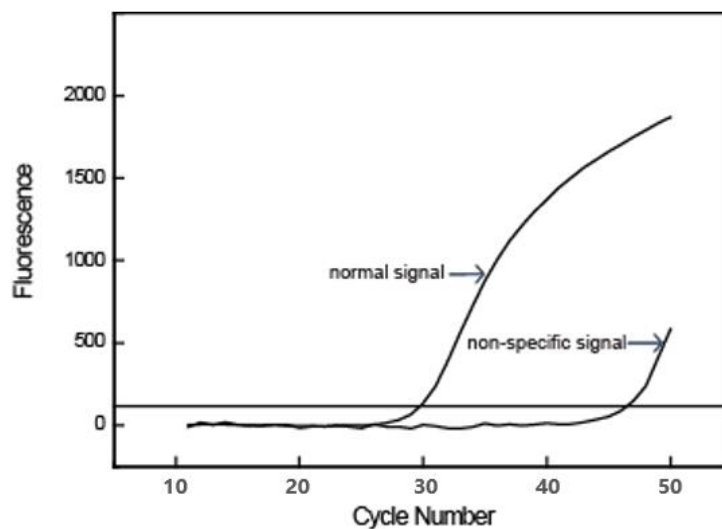

Figure 3. Non-specific signal in sample
- Cq values for positive sample signals should be below 40. Cq values above 40 might be non-specific amplification (shown in **Figure 3**). Repeat the test with fresh RNA, if the second test is positive, the sample is positive for the corresponding fusion gene. Other methods are recommended to be used to confirm the results from positive tests with Ct values above 40.